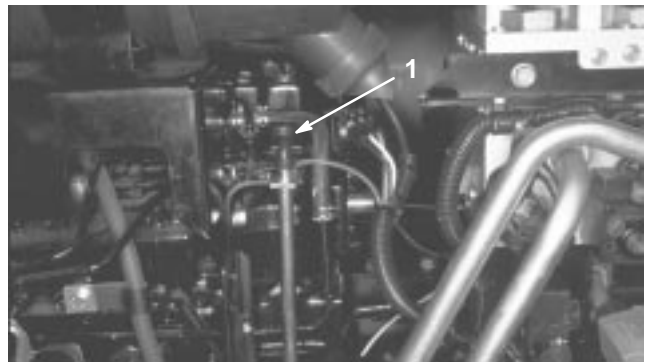
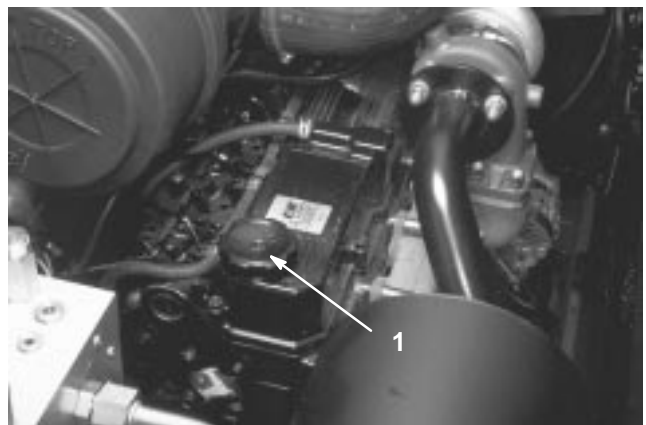

Figure 3
Figure 4
- Remove dipstick (Fig. 3), wipe with a clean rag, and insert into tube until fully seated. Remove dipstick from tube and check oil level. If oil level is low, remove filler cap (Fig. 4). Add proper type of oil until level is to top notch on dipstick. **Do not overfill.**